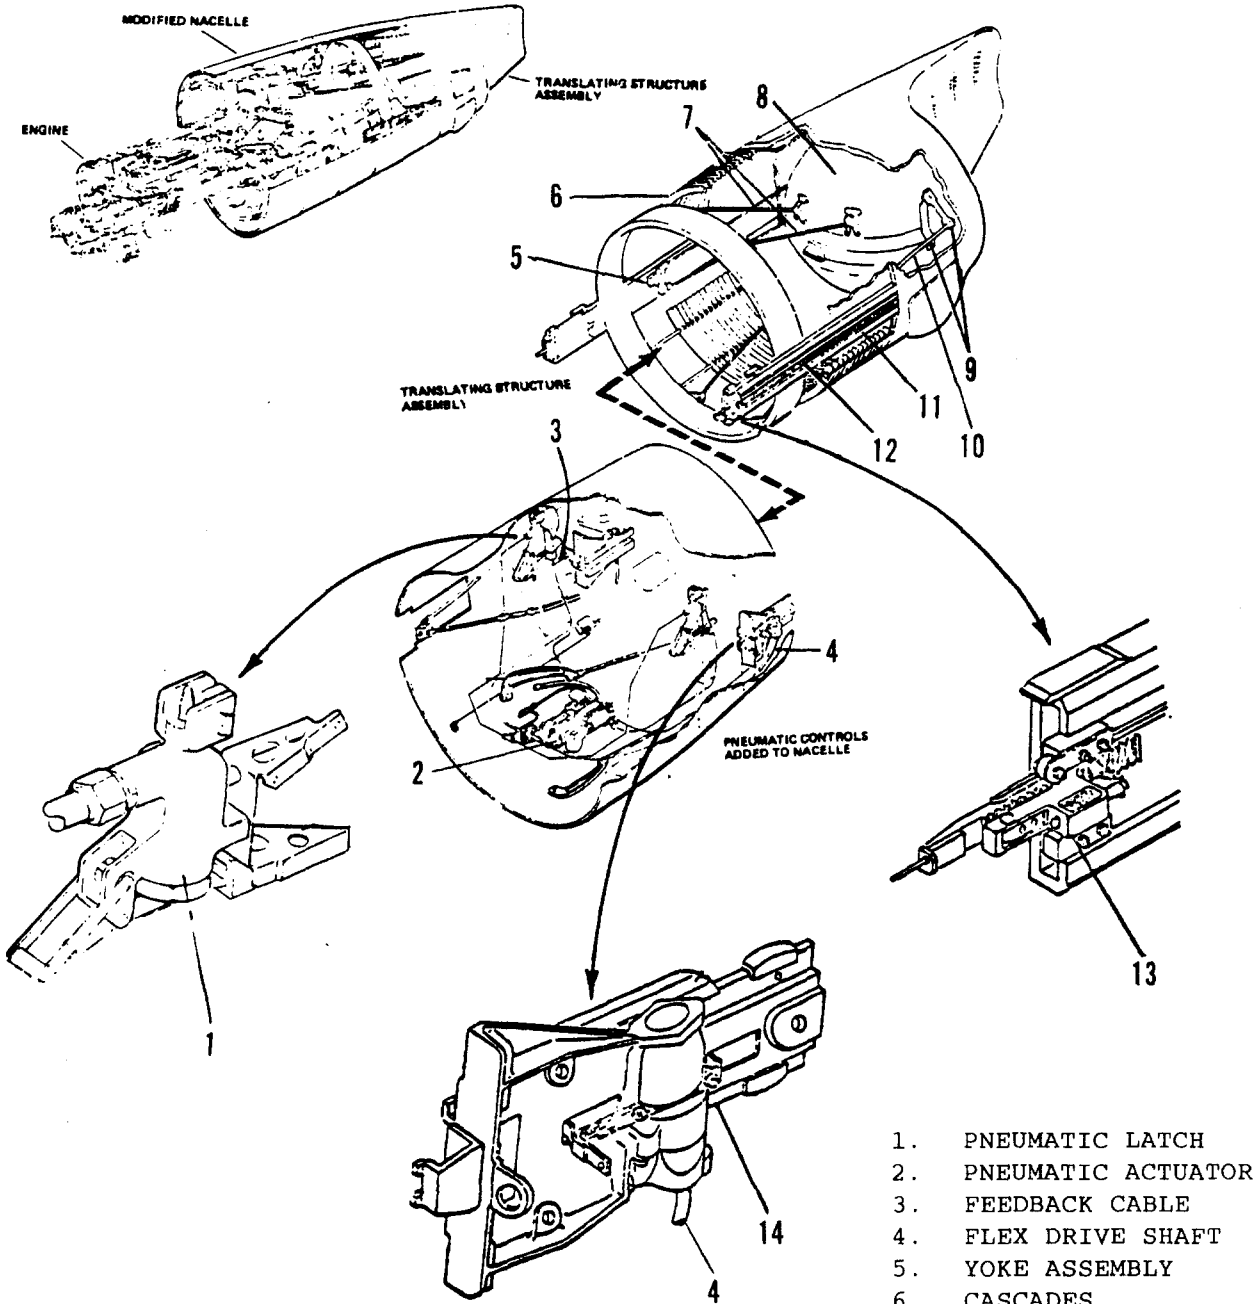

Figure 4 - Nacelle Installations
- (1) System Stowed. (Figure 7) The thrust reverser lever assembly is locked (system cannot be actuated) with the main throttle lever in any position other than idle. The translating structures are locked in the stowed position by the pneumatic latches (over-centered latch rollers are engaged in the beam detents). The inlet pressure regulator solenoid valve is in the off position and the pneumatic latch solenoid valve is closed. Refer to Figures 4 and 6 for component locations.